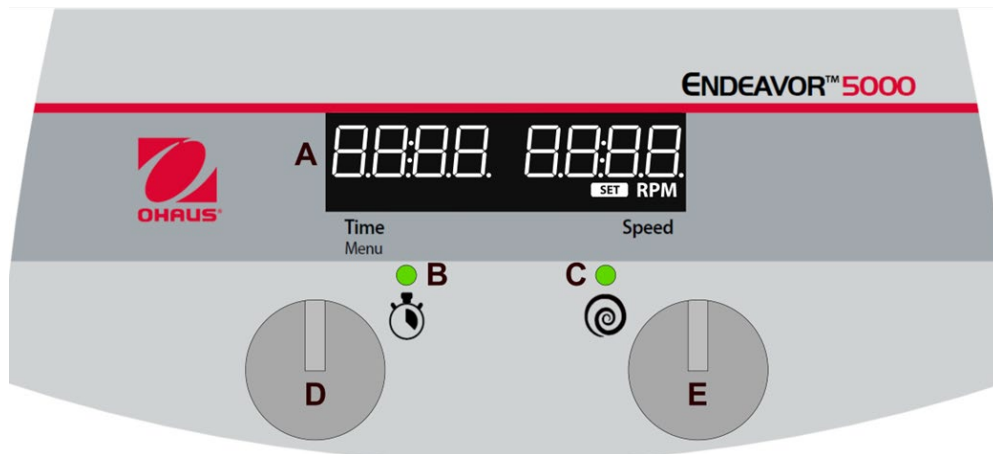

Figure 1: Endeavor 5000 Digital Control Panel
2. When the timer is set to any time between 00:01 and 99:59, the timer will count downwards from the set time once the shaking function is turned on and the **Timer Status indicator Light (B)** will be illuminated.
- c. Once the timer reaches 00:00 in the countdown mode shaking functions will shut off, the unit will beep 1 time and “End” will appear on the display (A, Figure 1).
1. Rotate the Time Adjustment Knob (D, Figure 1).
- c. Quick press the **Time Adjustment Knob (D)** to select the minutes value
- e. Rotate the **Time Adjustment Knob (D)** to adjust the hours value
- f. Quick press the **Time Adjustment Knob (D)** to confirm hours value and the timer setting
1. Rotate the **Speed Adjustment Knob (E, Figure 1)** to the desired setting
1. Press and hold the **Speed Adjustment Knob (E)** until the unit beeps and the **Run Status Indicator (C, Figure 1)** illuminates.
- While in Idle Mode, press and hold the **Time Adjustment Knob (D)** until “MENU” is displayed
- Quick press either the **Time Adjustment Knob (D)** or **Speed Adjustment Knob (E)**.
- To select a recall run condition, press and hold the **Speed Adjustment Knob (E)** until the unit beeps and the **Run Status Indicator (C)**, Figure 1) illuminates.